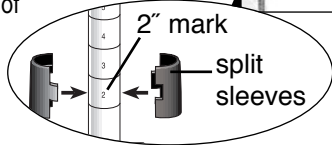

Figure 1b
- Insert posts through collars of 3-sided frame as shown in Figure 1b. Slide 3-sided frame down onto split sleeves. 33" posts should indicate front of unit.